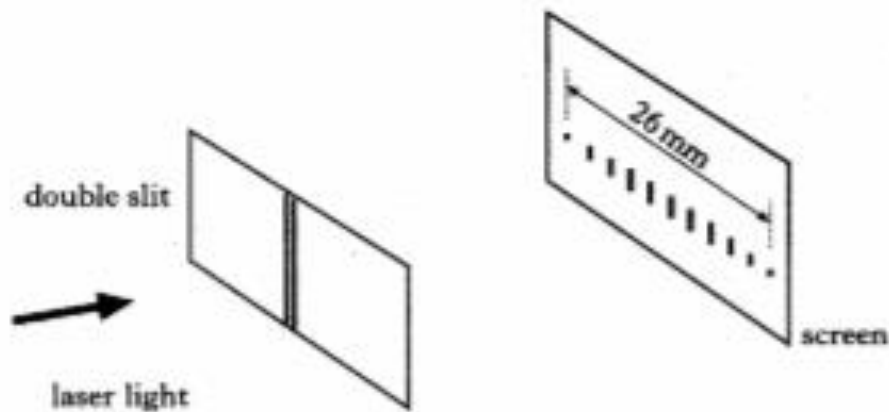

Figure 18
13. A student sets up a “Young’s double slit” experiment, as shown in Figure 18, to measure the wavelength of laser light.